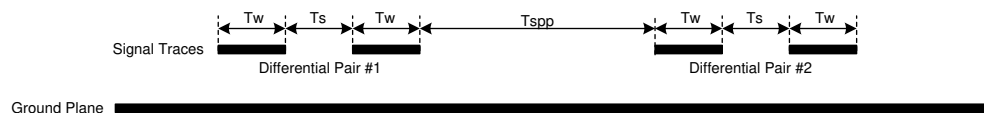

Figure 10-15. DMD Differential Layout Recommendations
DLPC6540 I/O timing parameters as well as DMD I/O timing parameters can be found in their corresponding data sheets. Similarly, PCB routing mismatch can be budgeted and met through controlled PCB routing. PCB design recommendations are provided in Table 10-7, Figure 10-15, and the paragraph below as a starting point for the customer.
- (1) Recommendations to achieve the desired nominal differential impedance as specified by R_{DIFF} in Section 6.7.
- (2) These parameters show recommendations based on the micro-strip design shown in Figure 10-15. This design minimizes signal loss to support longer trace lengths at the expense of electromagnetic interference (EMI). The designer has the option to use of a stripline design for shorter trace lengths and to target minimizing EMI at the expense of signal loss.
- (3) A reduced inter-lane spacing may be used to escape the Controller ball field, however, widen this spacing to at least the stated minimum after escape.